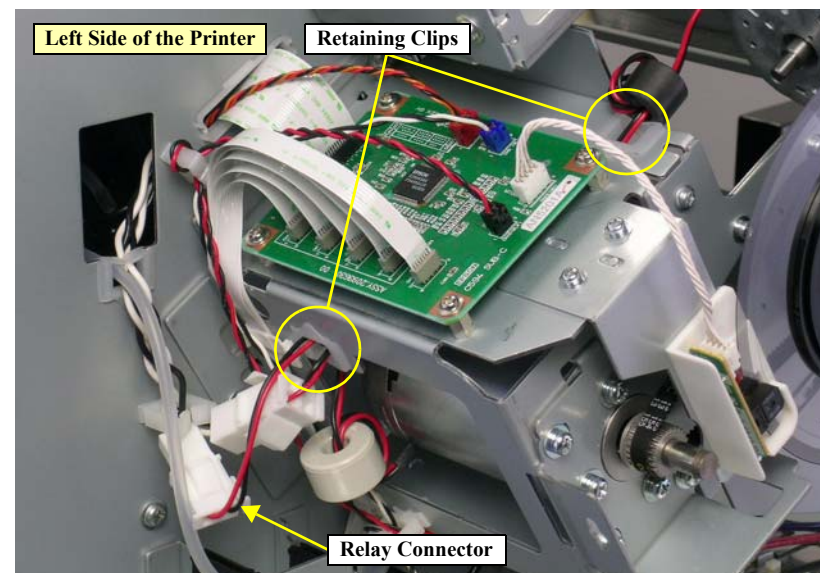

Figure 4-58. Releasing the CR MOTOR ASSY. Harness
3. Disconnect the CR MOTOR ASSY. connector from the relay connector, and release the CR MOTOR ASSY. harness from the two retaining clips. *See Figure 4-58.*